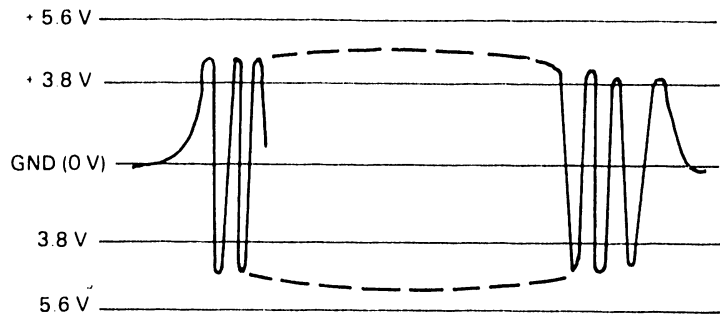

Figure 5-5 Increment Seek (Cylinder 000 to Cylinder 691) Waveform
9. Check that the oscilloscope waveform matches the waveform in Figure 5-5.